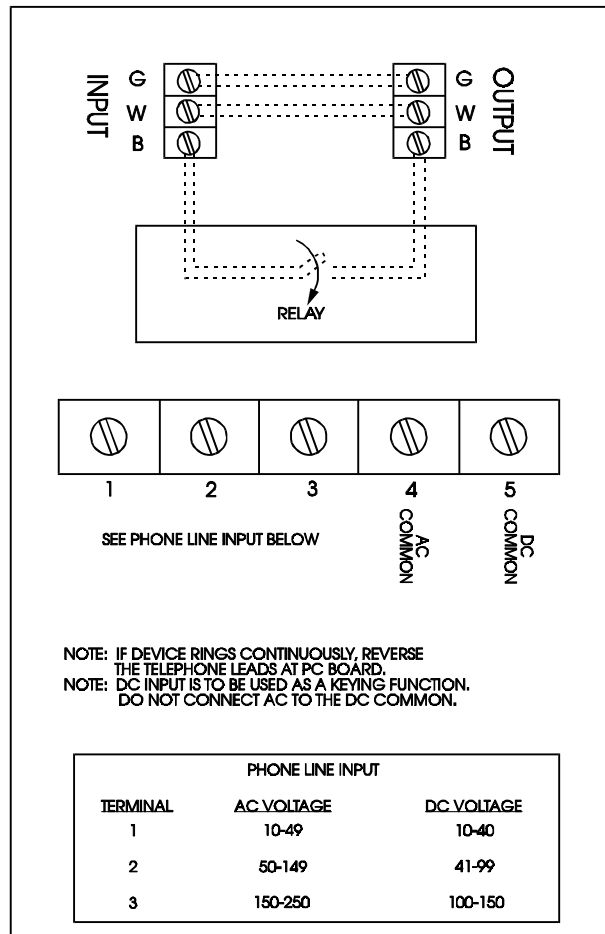

Figure 2. Electrical Connections
3. Wire the phone bell as shown in Figure 2.